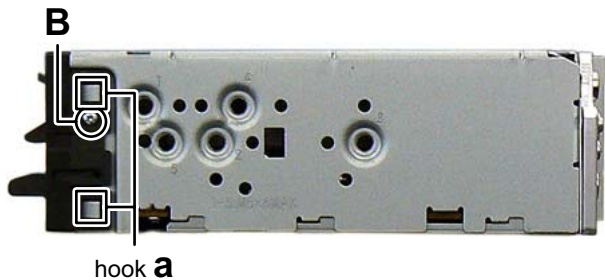

Fig.2
- (2) Remove the two screws **B** attaching the both side of the FRONT CHASSIS assembly.(See Fig.2)
- (3) Disengage the four hooks **a** engaged the both side of the FRONT CHASSIS assembly. (See Fig.2)